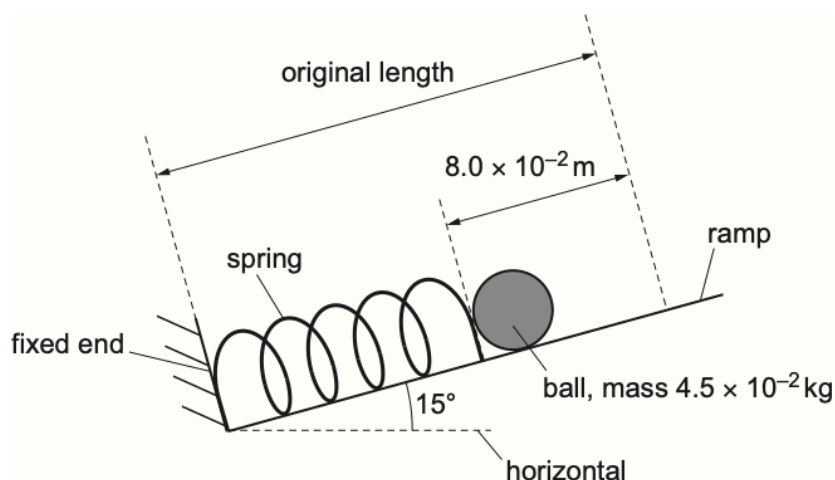

Fig. 4.1 (not to scale)
- 5 A pinball machine uses a spring to launch a small metal ball of mass  $4.5 \times 10^{-2} \text{ kg}$  up a ramp. The spring is compressed by  $8.0 \times 10^{-2} \text{ m}$  and held in equilibrium, as shown in Fig. 4.1.